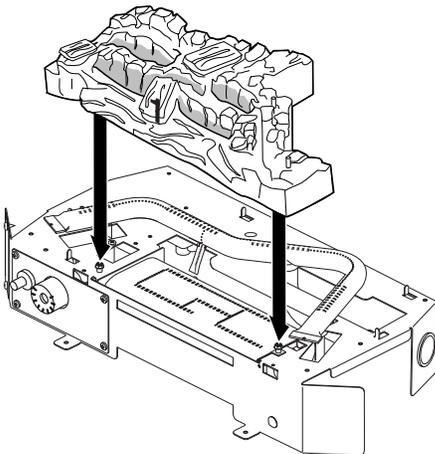

Figure 28 - Installing Log #1 [Ember Bed] (Model LGX3924NT Shown)
1. Place log #1 (ember bed) onto the base. Position the log over the shoulder bolts on either side of the front burner. The log will sit on top of the front burner (see Figure 28).